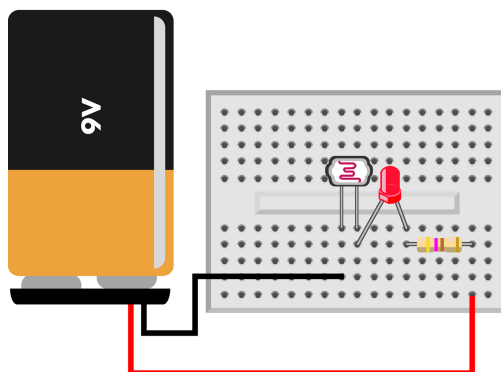

Figure 1-5. *Circuit diagram for photoresistor project*
1. Orient your breadboard so that it is wider than it is tall, as shown in Figure 1-5.